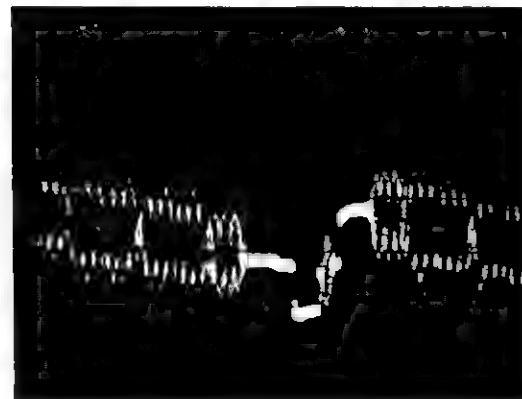

Fig. 4-8. — Color Burst/Sync Tip To Blanking Level
3. Adjust R3312 so that the p-p level of color reference burst and sync tip to blanking are the same (Fig. 4-8).
3. Adjust R3609 (Fig. 4-8) for 1.2V p-p output.